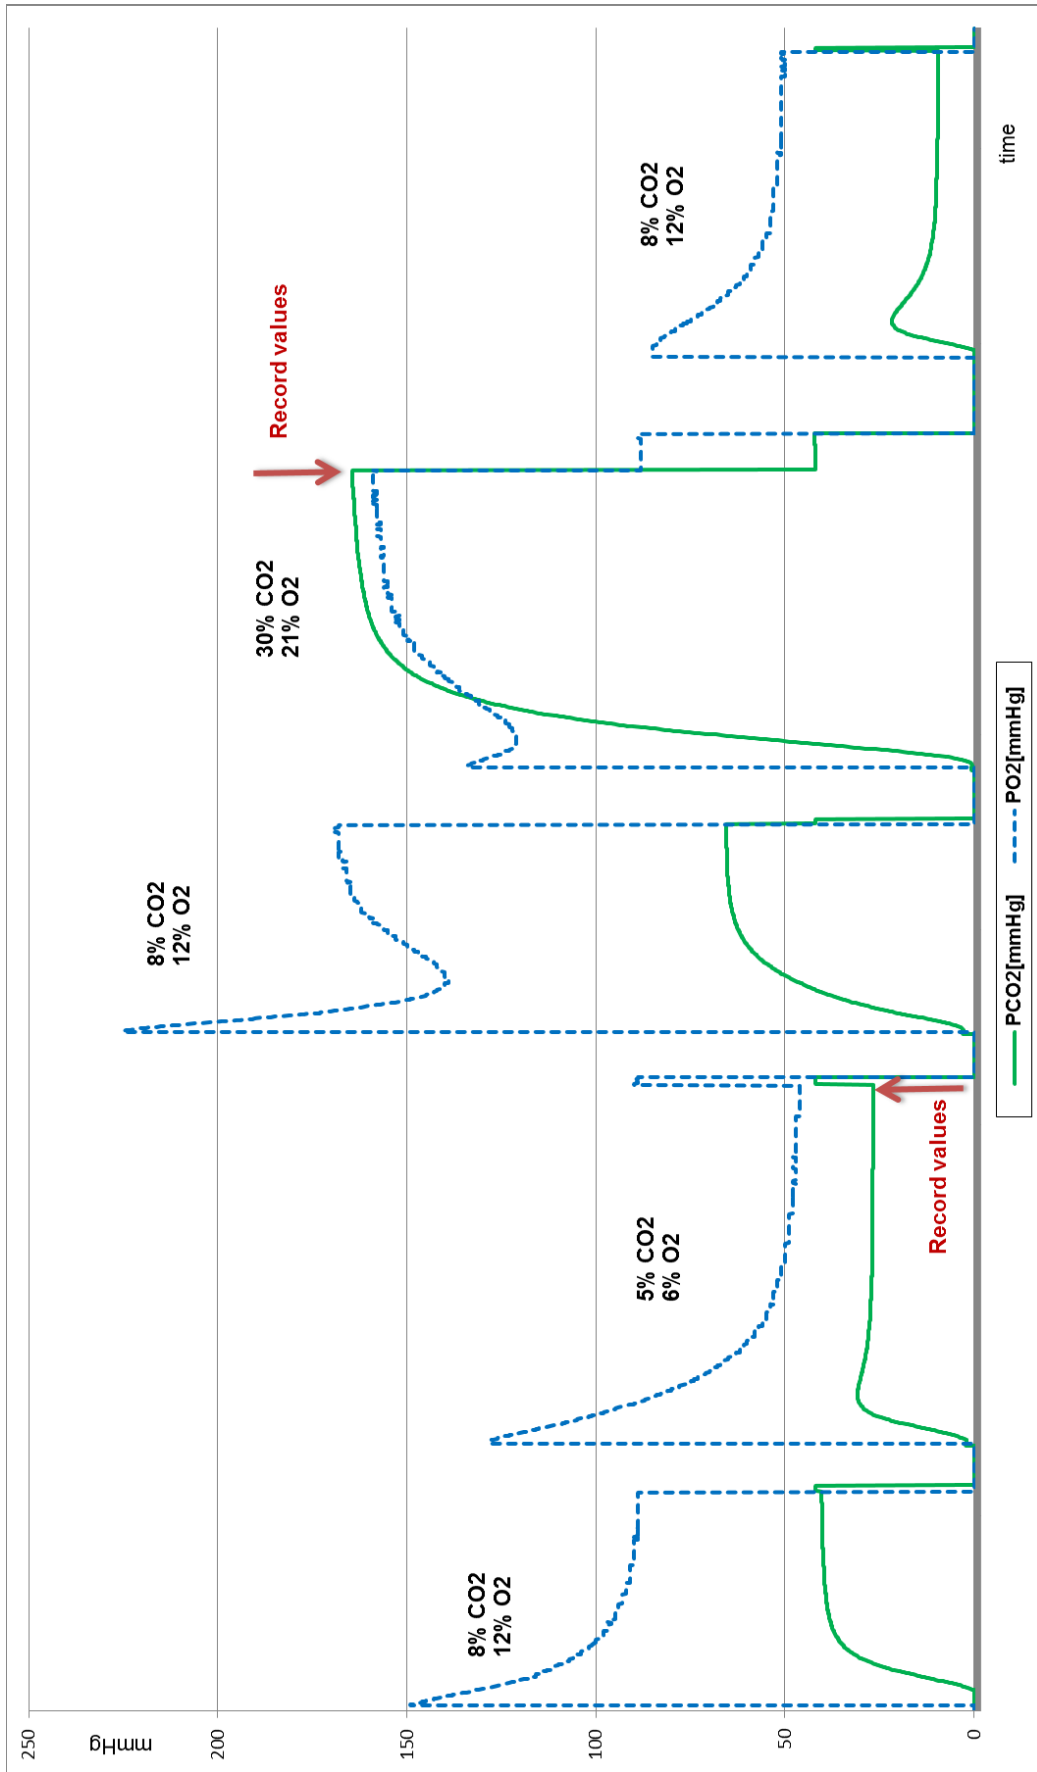

Figure 7 Examples: PCO2 and PO2 Slope Test
**Note:** Prior performing the Slope Test please ensure that the sensor is properly stabilized, i.e., stored for at least 4 hours in the Docking Station with the monitor switched on. For an overview about the Slope Test please refer to *Figure 7 Examples: PCO2 and PO2 Slope Test.*